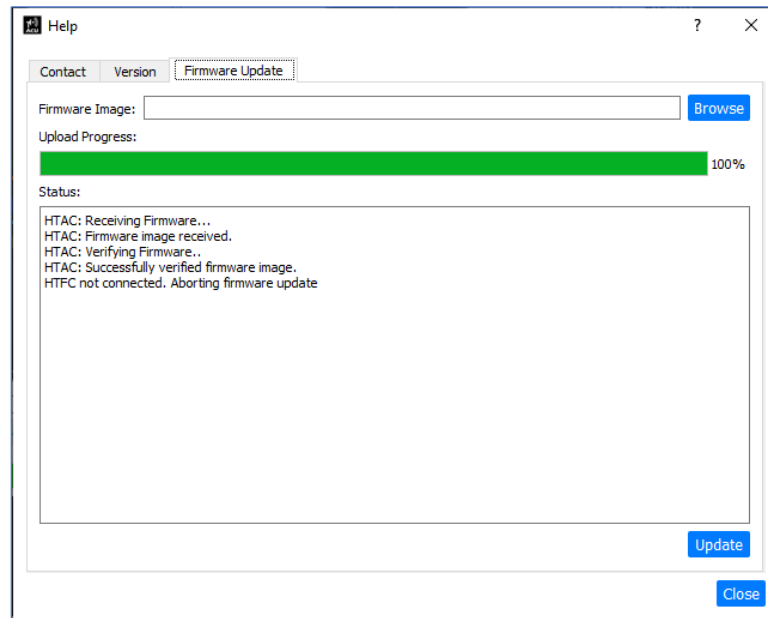

Figure 79: Firmware Update Status
The Upload Progress bar shows loading process until it is 100% complete. The Status window displays the firmware file elements as they process, as shown in Figure 79. If the firmware install fails, the progress bar does not reach 100%, and the factory should be contacted to resolve the install failure.
- Note: Verify the system Feed Control Box is installed, powered, and connected correctly. In the example shown in Figure 79, the Feed Control Box was not connected, so the associated firmware update was aborted.